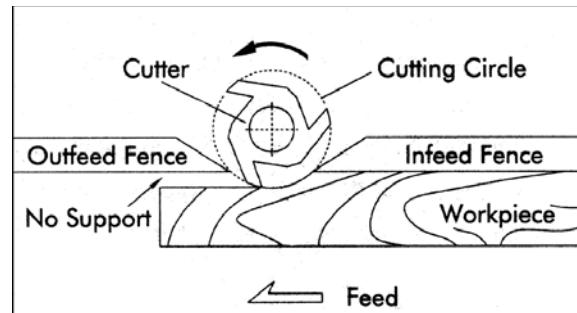
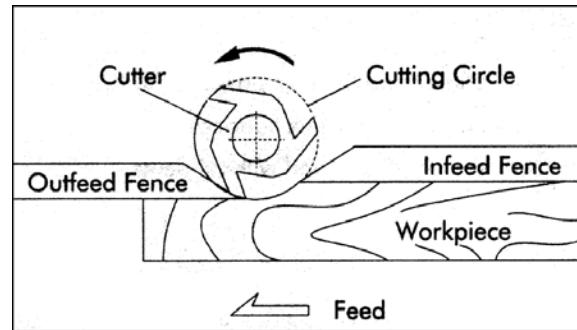

Figure 27
Figure 28
2. When the shaping operation removes the entire edge of the stock, e.g. in jointing or making a full bead, the shaped edge will not be supported by the outfeed fence when both fences are in line, as shown in Figure 27. In this case, the stock should be advanced to the position shown in Figure 28. The outfeed fence should then be moved forward to contact the work, as shown in Figure 28. The outfeed fence will then be in line with the cutting circle, and the operation can continue.